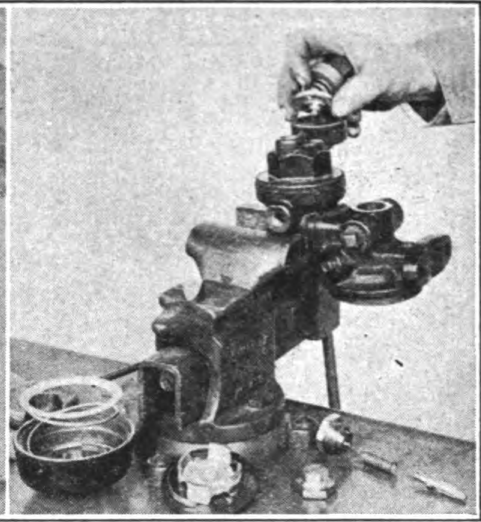

FIGURE 39. RELAY-EMERGENCY VALVE—REMOVING CAP, SPRING, AND DIAPHRAGM.
- (a) Remove pressure regulating cap, spring and diaphragm. (Fig. 39.)